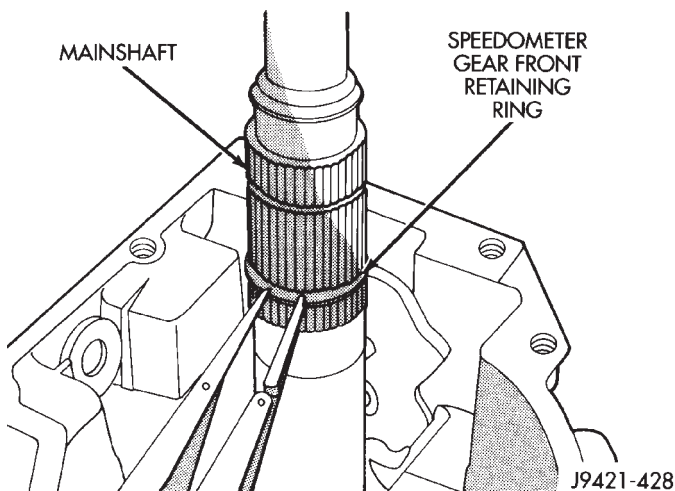
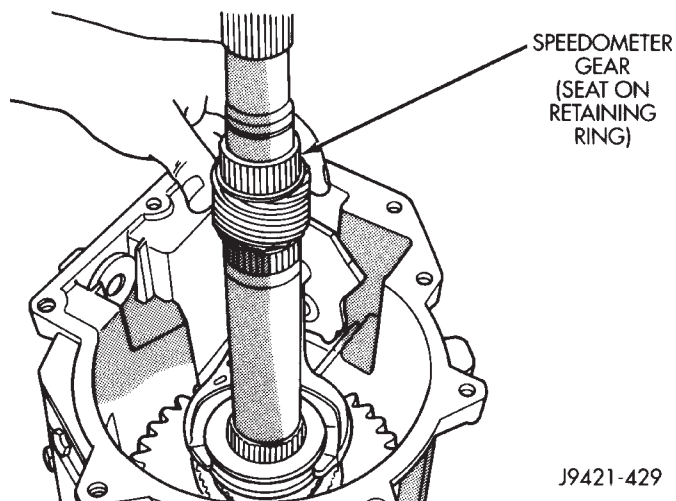
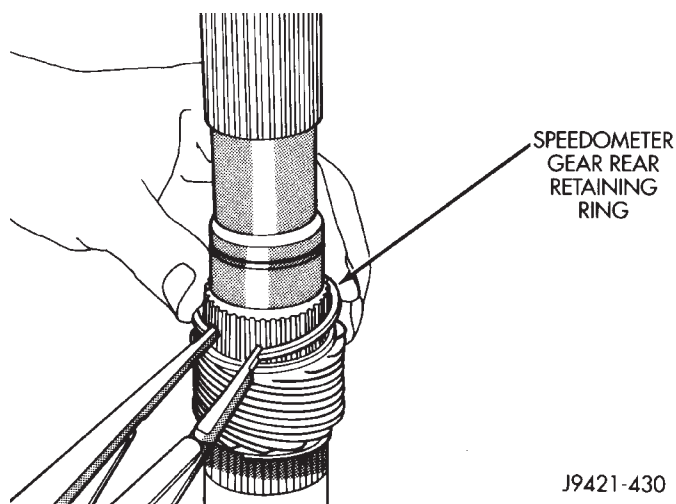

Fig. 63 Speedometer Front Ring installation
Fig. 64 Speedometer Gear installation
Fig. 65 Speedometer Front Ring installation
(21) Install first speedometer snap ring on shaft (Fig. 63), followed by speedometer gear (Fig. 64). Then install second snap ring to secure gear on shaft (Fig. 65).